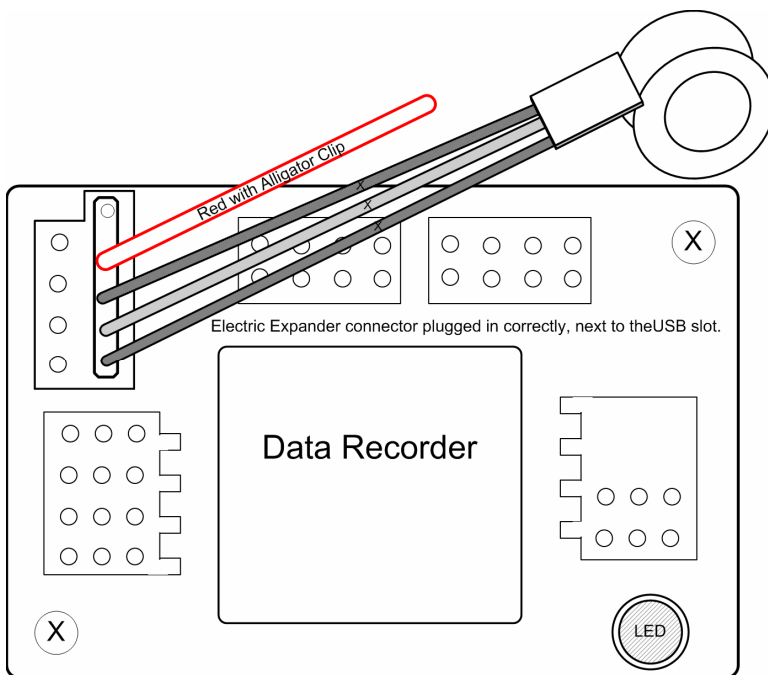

Figure 1a
1) If you have received a Recorder that accepts the 5 pin plug, as shown in Figure 1A below, the connector plugs in as shown in Figure 1A. NOTE: The plug is a tight fit – slightly tilting the 5 pin connector back toward the center of the Recorder can aid installation. If you still have problems fitting it, you might need to lightly sand the top of the connector (nearest the red wire) with sandpaper, but this should not be necessary.
EXTREMELY IMPORTANT: The Electric Expander Connector ****MUST**** be connected correctly to your Recorder, or severe damage to the Recorder will occur, which will void the warranty. The Expander connects as shown in Figure 1a or 1b, to the right of the USB connector, with the RED wire of the connector facing UP. If you are uncertain as to how to connect the expander, don't hesitate to email us at support@eagletreesystems.com!